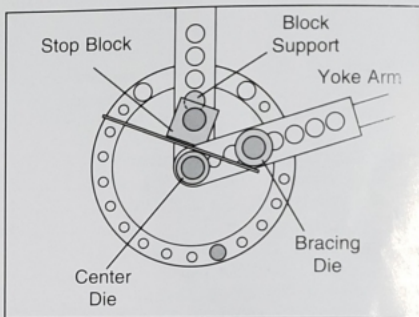

Figure 4. Basic radius bending setup.
To perform basic radius bending (**Figure 4**):
2. Mount the block support and stop block onto the bending bracket as shown in **Figure 4**. Make sure that the block support is positioned as close to the stop block hitch pin as possible.